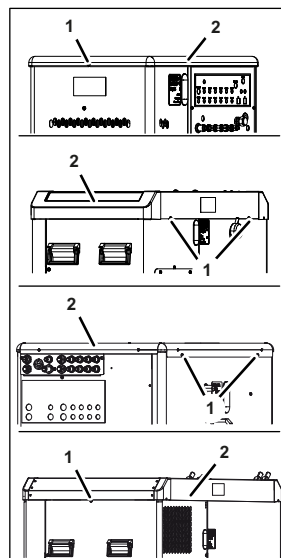

Figure 31
1. Loosen/remove the relevant fastening bolt(s) (Figure 31/1) from the relevant cover (Figure 31/2).
2. Lift off the relevant cover (Figure 31/2).
3. Position the new cover (Figure 31/2) on the unit by first inserting one side with the bolts in the grooves and then lowering the cover onto the unit.
4. Attach the cover (Figure 31/2) using the fastening bolt(s)(Figure 31/1).